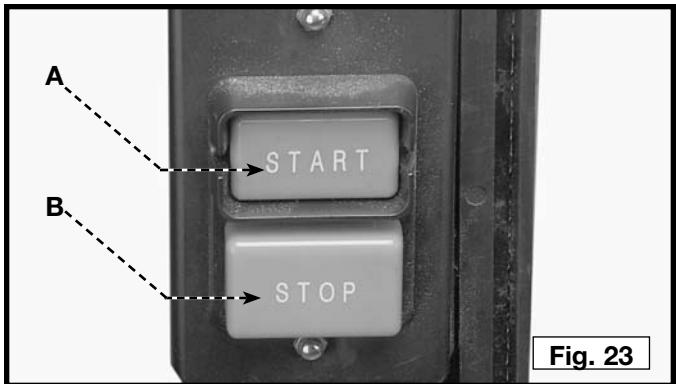

Fig. 23
The power switch is located on the left side of the machine. To turn the machine "ON", push the green start button (A) Fig. 23. To turn the machine "OFF", push the red stop button (B).